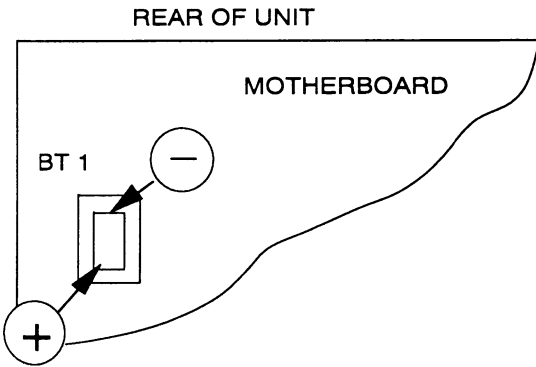

Figure 2-2. RAM Battery
2. With the power ON, replace the old battery, as shown in figure 2-2, with a new battery. Observe the polarity of the battery when installing it. If the power is turned off while replacing the battery, all contents of the RAM will be lost.